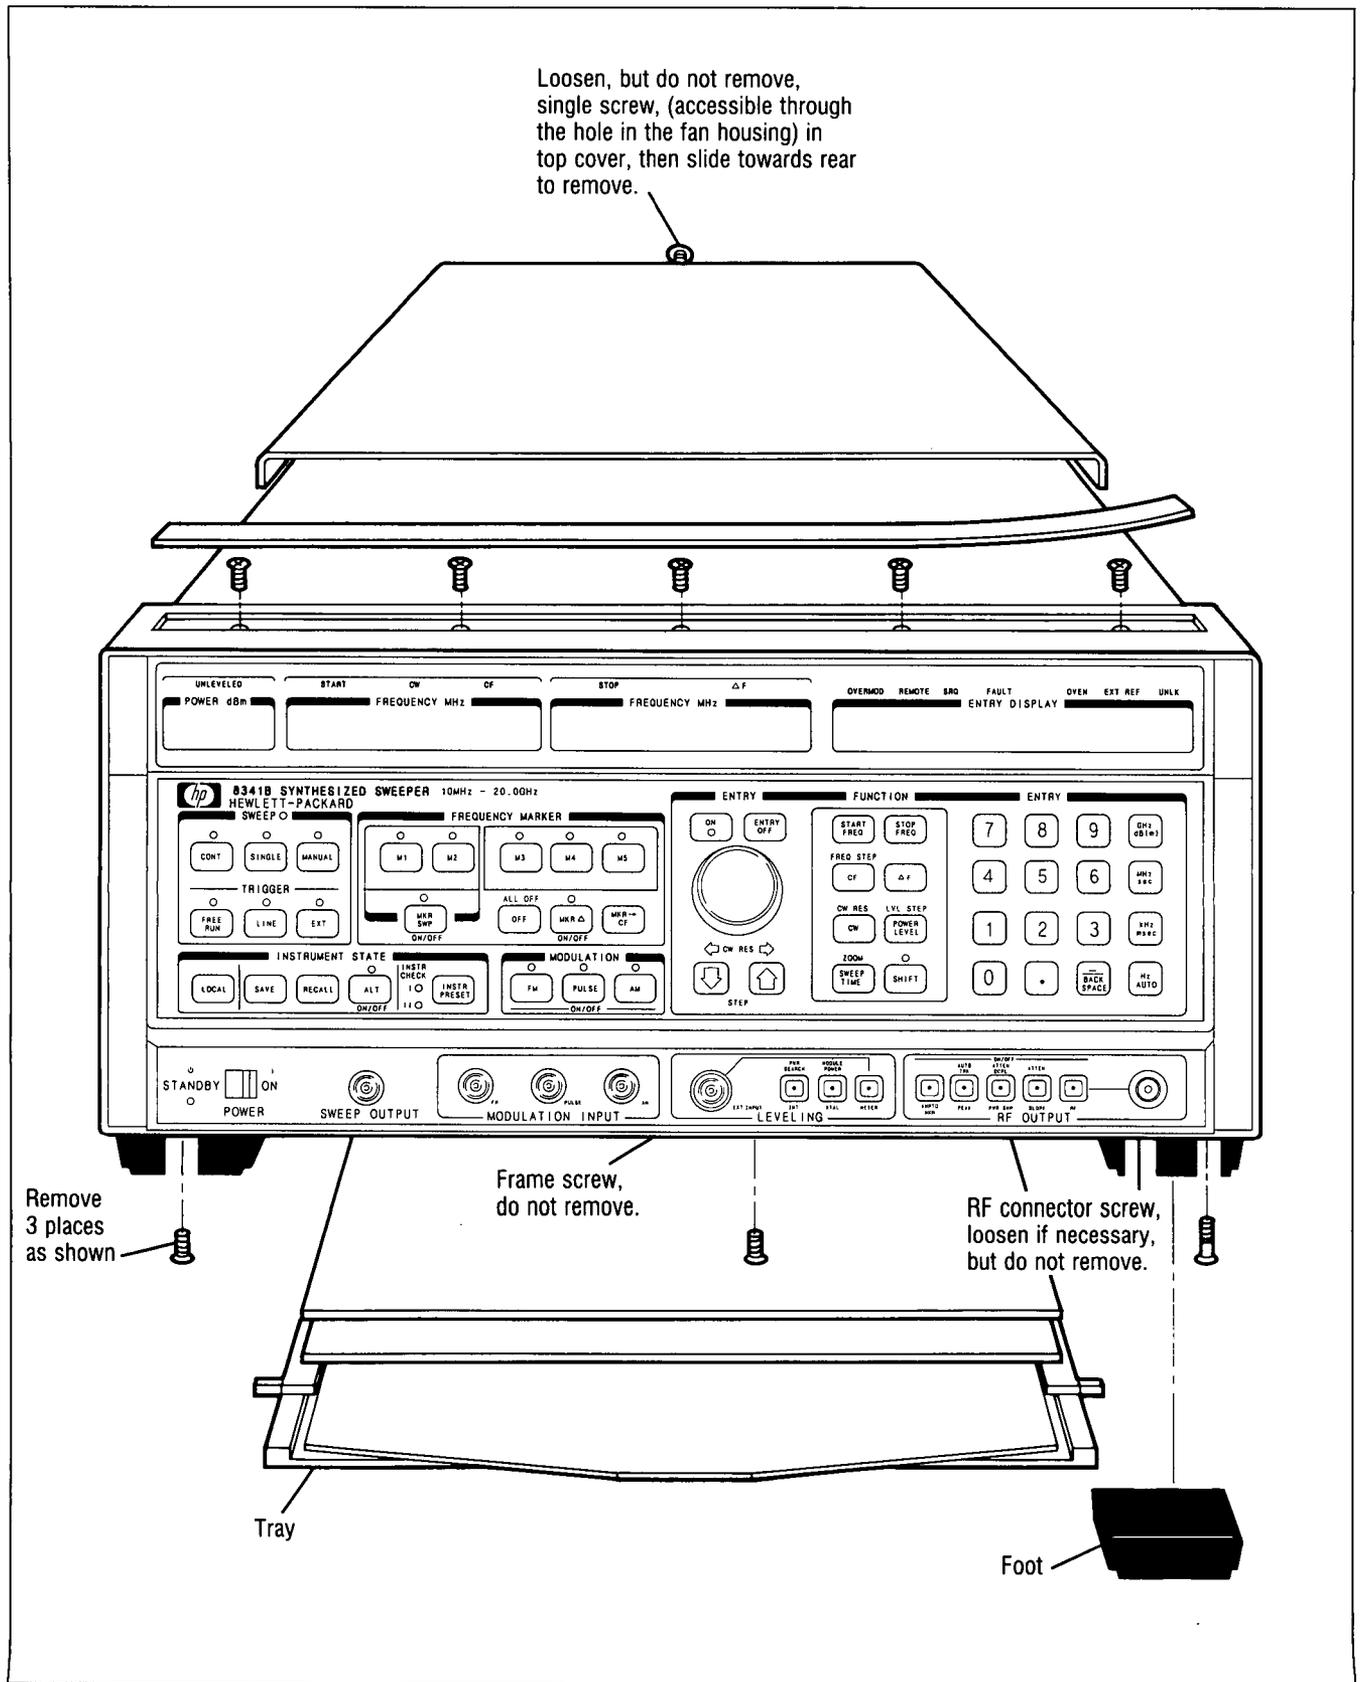

Figure G-4. Front Panel Disassembly
2. If the supplies are correct, refer to Figure G-4 and remove the front panel, separate the display assembly from the keyboard, and reattach the keyboard to the frame.
Figure G-4 illustrates the following procedure.
6. Remove three of the five screws on the lower, front frame edge (see Figure G-4), and loosen a fourth, if necessary.